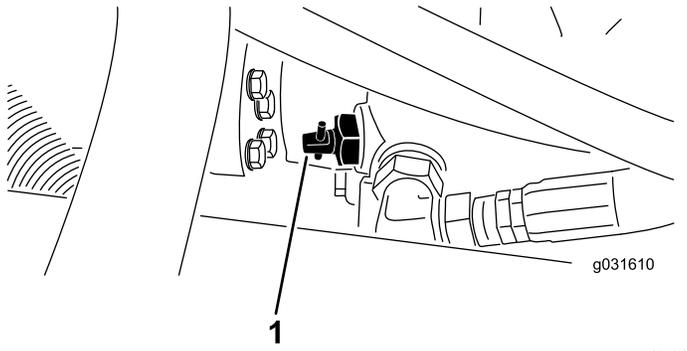

Figure 24
1. Locate the bypass valve on the pump and rotate it 90° (Figure 24).